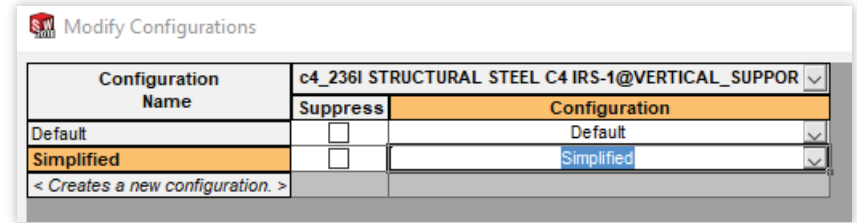

Fig. 14
- Go to the assembly where that component is used and create a simplified configuration. See Fig. 14.